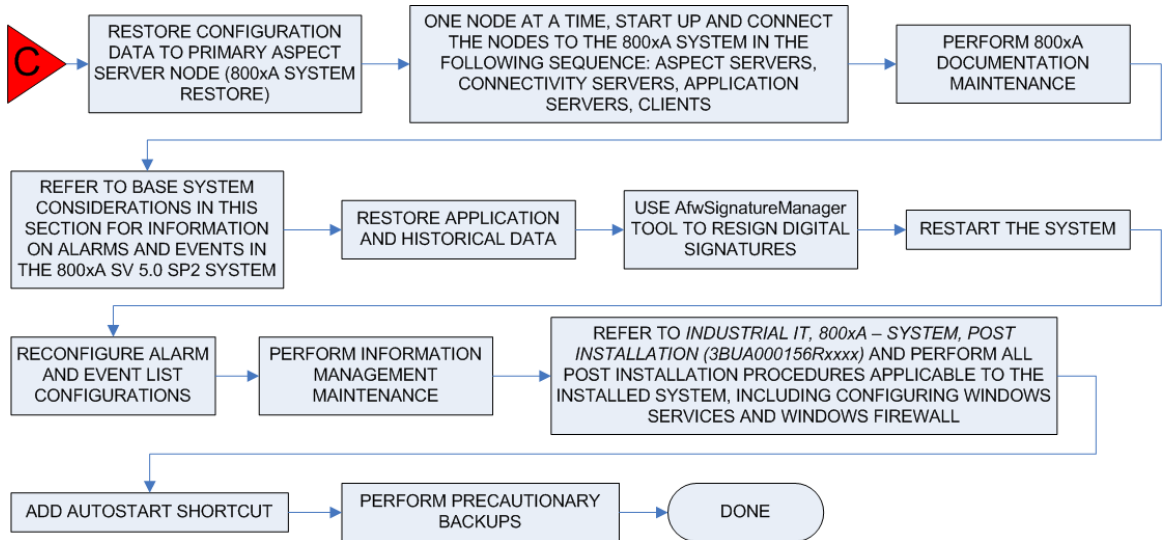

Figure 32. System Restore and Post Upgrade Flow
- 800xA System software and configuration data upgrade (Figure 32).